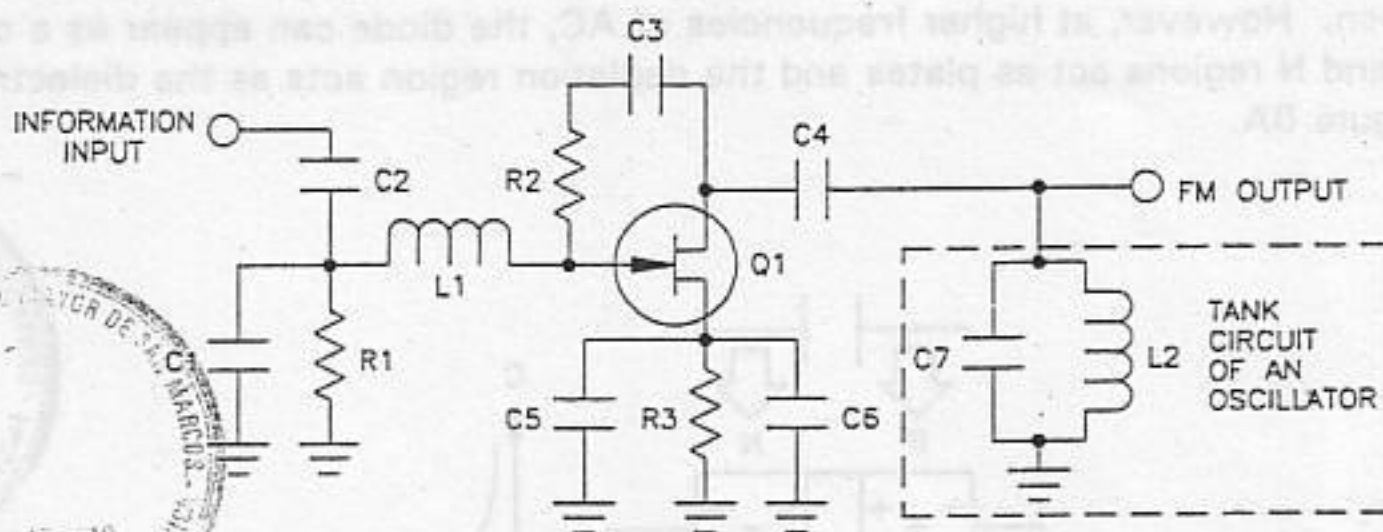

Figure 7. Reactance Modulator Circuit
The first type of modulator discussed is the reactance modulator. Reactance modulators operate on the principle of changing a circuit's impedance to change the frequency of an oscillator. Figure 7 is a typical example of a reactance modulator using a FET transistor. You will construct this circuit in the experiment.
- _____ 1. Refer to Figure 7. How is the frequency of the tank circuit varied?